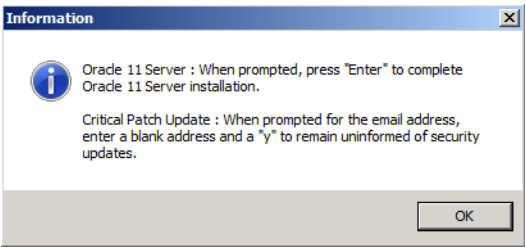

Figure 12. Oracle Information Dialog Box
9. An Information message dialog box (Figure 12) is displayed describing the actions to be taken in the following steps. Click **OK** to continue.
Perform the actions described in Figure 12.